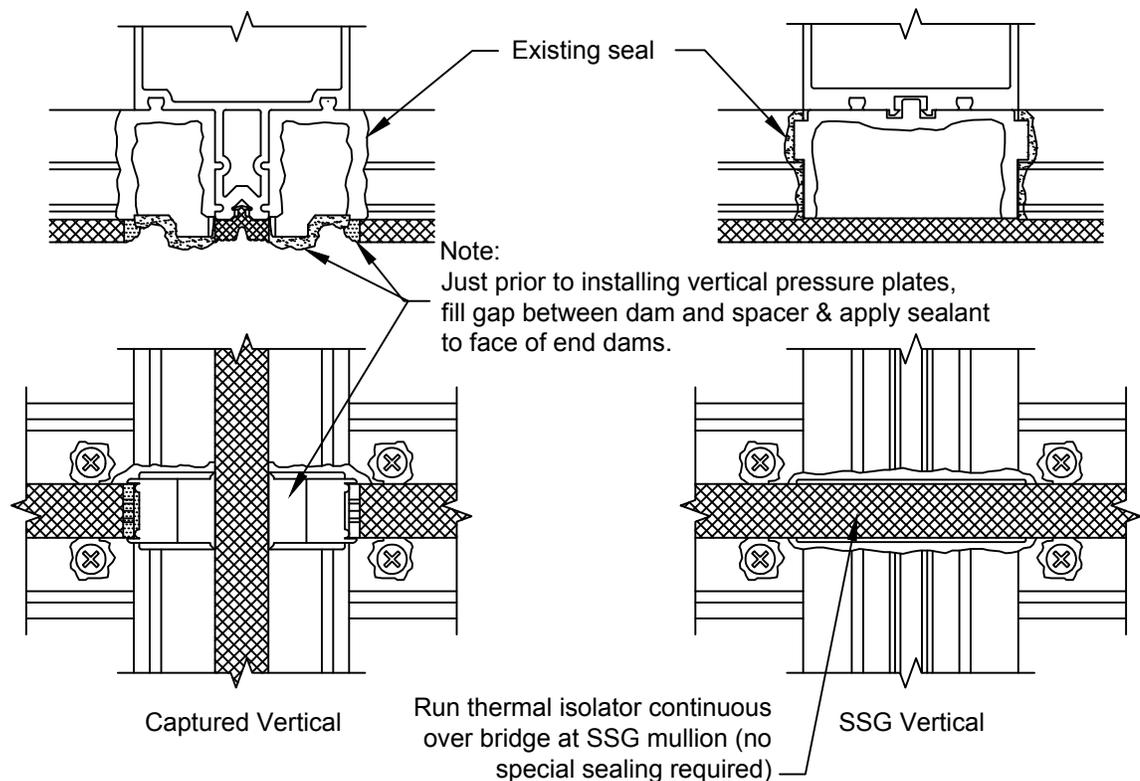

Figure 20
- 3.9 Prior to installing vertical pressure plates, apply sealant to the face of each horizontal zone plug. **See FIGURE 20 Page 23.** Vertical pressure plates and face caps must be installed before the horizontal pressure plates are applied.